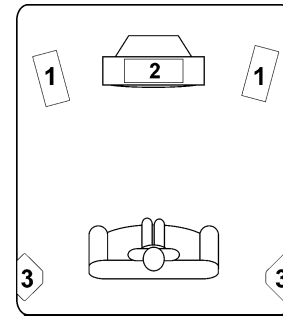

fig. 5
Properly placed, your Mordaunt-Short THX Select loudspeaker system will provide an excellent, wholly satisfying sound. However, with each room varying in size, dimension and layout, it will be necessary to experiment with the placement of your loudspeakers in order to gain optimum performance. A typical set-up is shown in fig. 5.
3. Sitting in the listening position (as per fig.5) set the SPL meter range to 75 dB, it's weighting to C, and set the response to slow if it has a slow/fast response setting.